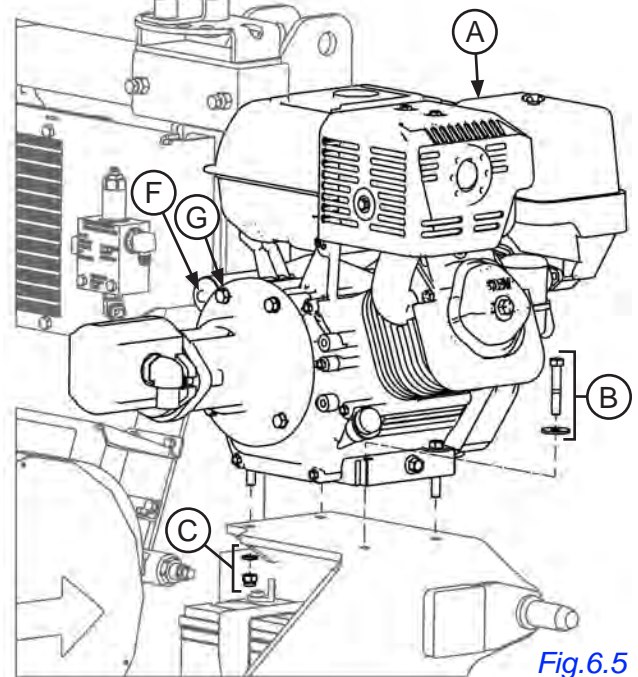

Fig.6.5
4. Lift powerpack engine **(A)** onto its mount on the bale wrapper front right corner, above the right three point hitch pin. Fasten into place with 4 3/8" x 2-1/4" hex bolts, 4 3/8" flat washers **(B)**, 4 3/8" lock washers and 3/8" lock nuts **(C)**. See Fig.6.5.